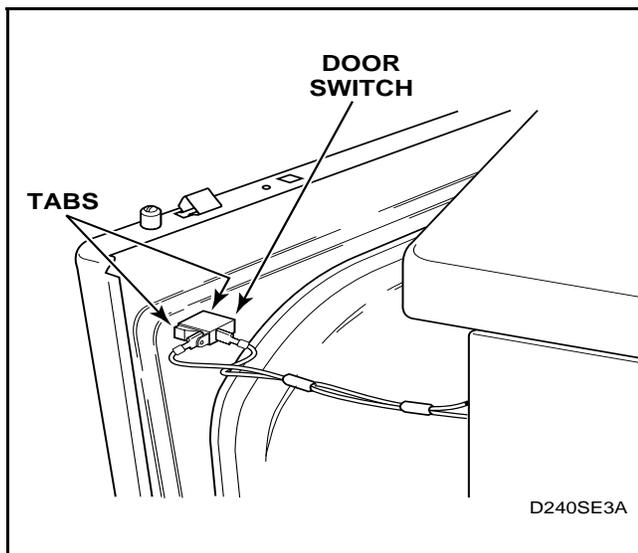

Figure 11
- d. Disconnect wires from door switch. See Figure 11.
- e. Depress tabs on switch and push out of front panel. See Figure 11.